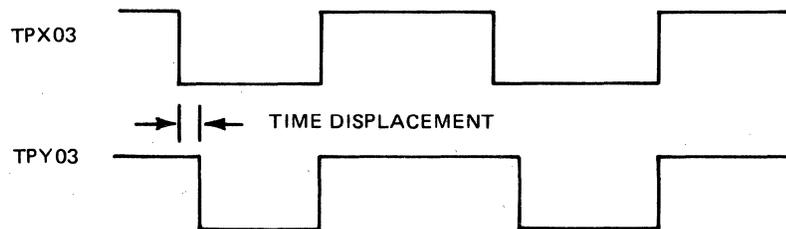

Figure 5-5. Output Waveforms (TP103, TP203, TP603, TP703)
- b. Using the maintenance switch SW1, run the tape forward. Observe the time displacement between the two signals displayed on the oscilloscope (see figure 5-5). Calculate the amount of displacement.
- b. Use the maintenance switch SW1 to run the tape forward and monitor TP203 through TP903 with channel B of the oscilloscope. Record the time displacement between channels A and B of the oscilloscope (see figure 5-5).
- d. Using the maintenance switch SW1, run the tape forward. Observe the time displacement between the two signals displayed on the oscilloscope (see figure 5-5). Calculate the amount of displacement: